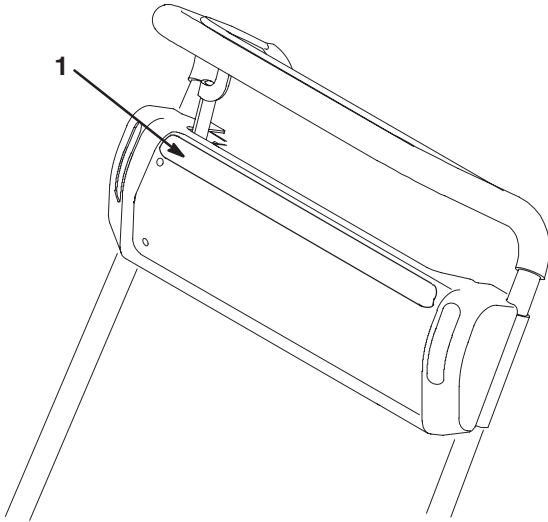

Figure 4
1. For CE conformity, affix warning decal (Fig. 4) over existing warning decal on front of console panel.